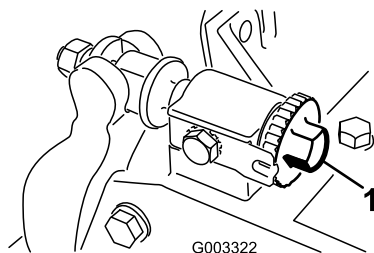

Figure 24
1. Loosen reel to bedknife contact by turning the bedknife adjusting knobs (Figure 24) counterclockwise until no contact exists.